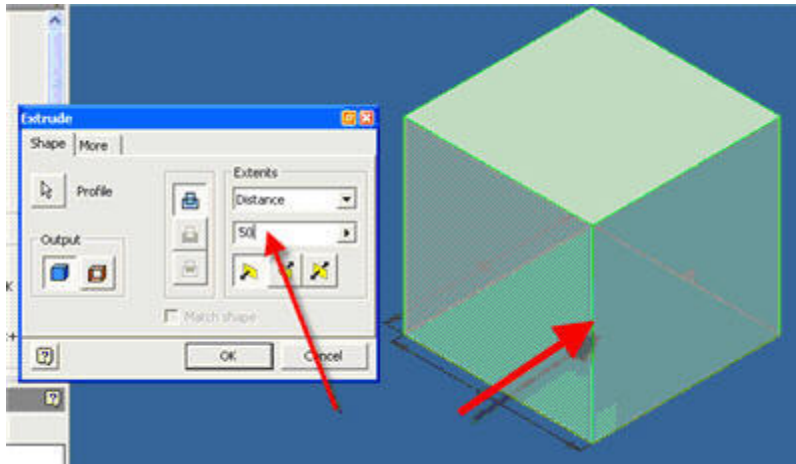

Figure 4
Step 3. Now enter the height as 50mm as shown in Figure 4.